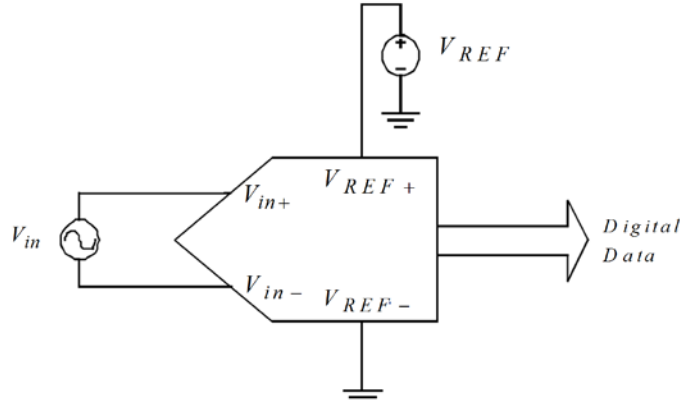

Figure 13. A typical A/D converter block diagram (from [9]).
where  $\gamma$  is the digital code of output in volts (V),  $n$  is the number of output bits,  $G$  is the gain factor,  $V_{ref}$  is the reference voltage and  $V_{in}$  is the input signal to the A/D converter. Figure 13 is a block diagram of a typical A/D converter circuit.